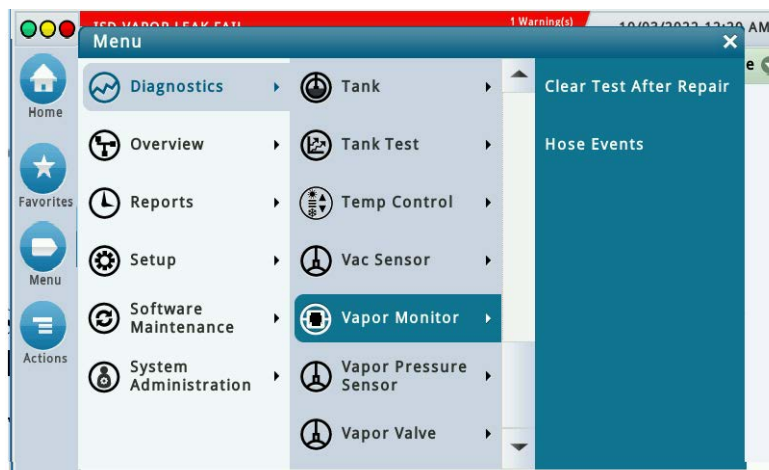

Figure 58. Vapor Monitor Clear Test After Repair Screen
1. The Vapor Monitor posts a Vapor Leak Fail alarm. Navigate to Diagnostics>Vapor Monitor>Clear Test After Repair (see Figure 58).